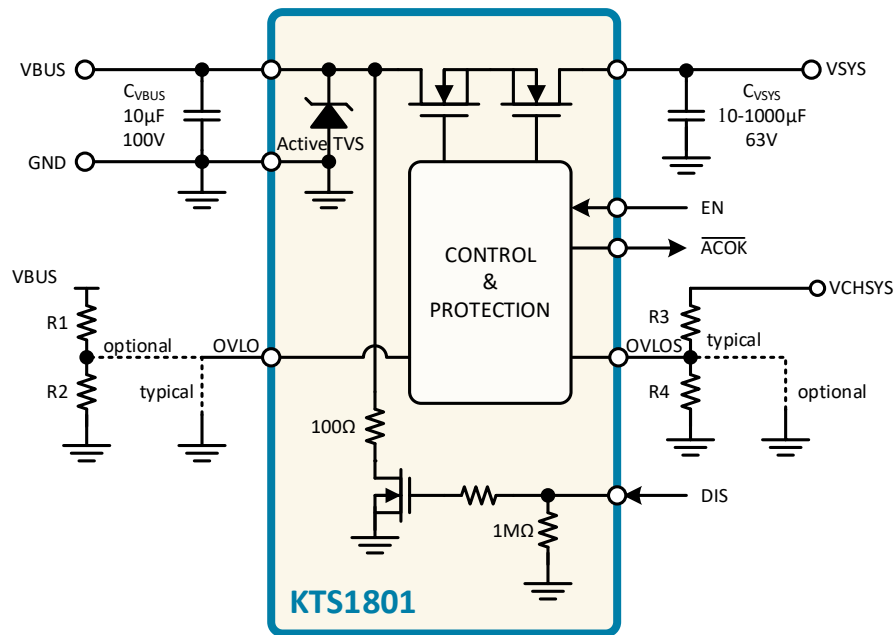

Figure 8. Functional Block Diagram
where  $V_{OVLOS} = 1.17V$ . Connect R3 from VCHSYS to OVLOS. Connect R4 from OVLOS to ground. See Figure 8. Connect OVLOS pin to GND if it is not used.
*Specifications* section of the *Electrical Characteristics* table. As shown in Figure 8, the DIS circuit operation is fully independent of the rest of the IC and does NOT depend upon chip being powered or the EN status.